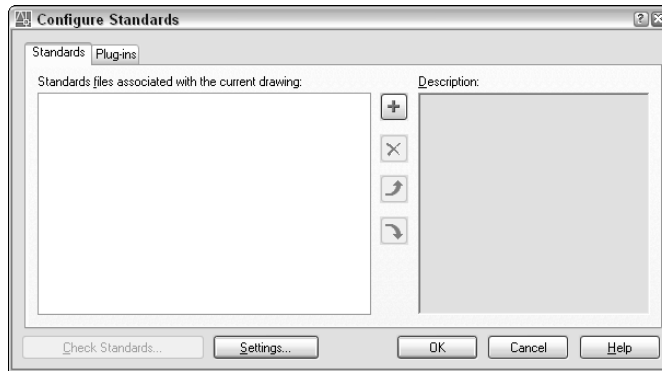

Figure 26-10: Use the Configure Standards dialog box to associate a standards file with a drawing.
2. On the Standards tab of the Configure Standards dialog box, shown in Figure 26-10, click the + button.